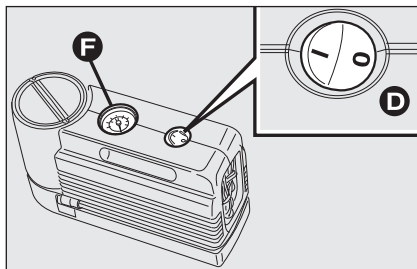
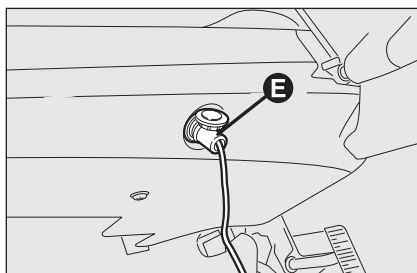

fig. 10
fig. 11
- ☐ make sure that switch **D-fig. 10** of the compressor is in position 0 (off), start the engine, plug into the nearest socket **E-fig. 11** and activate the compressor by turning switch **D-fig. 10** to position I (on). Inflate the tyre to the pressure specified in the “Inflation pressure” paragraph in the “Technical specifications” section.
For a more accurate reading, check pressure gauge **F-fig. 10** with the compressor off;